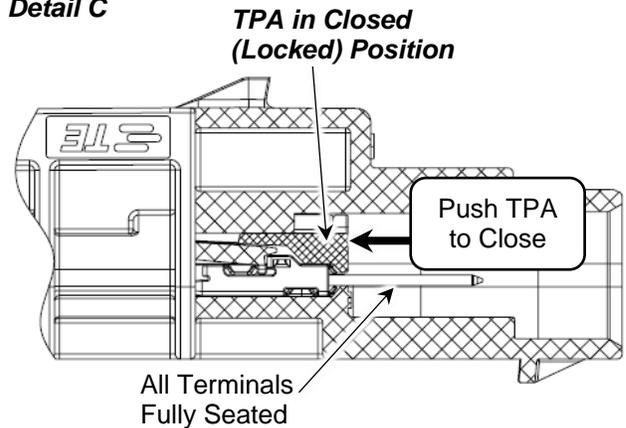

Figure 3
- a. Align the terminal with the selected circuit cavity of the housing so that the terminal orientation tab faces in the same direction as the notch in the circuit cavity. See Figure 3, Detail A.
5. Install a seal plug (part number 0413-003-1605) into any unused circuits. See Figure 3, Detail B.
6. After all terminals have been inserted, move the TPA to the closed (locked) position. The TPA should be easy to close. See Figure 3, Detail C.